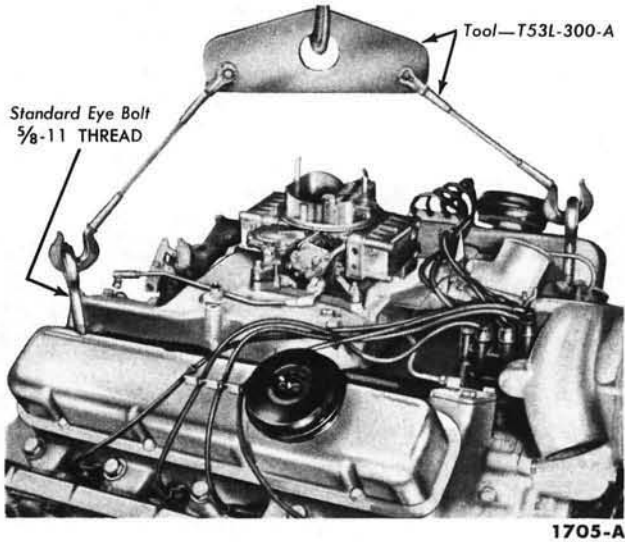
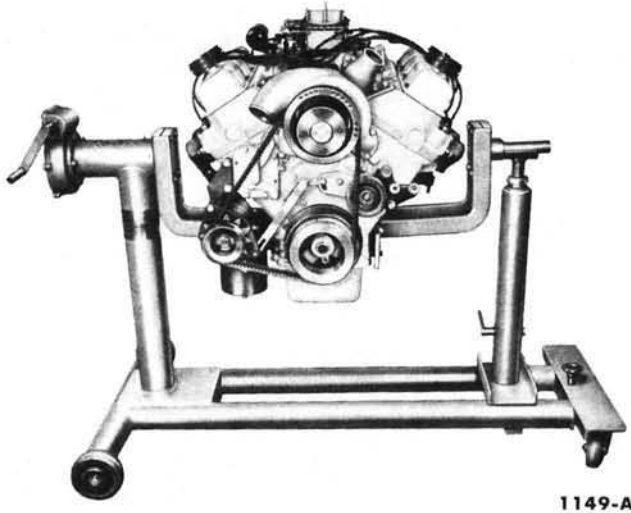

FIG. 12—Engine Lifting Sling
FIG. 13—Engine Work Stand
6. Place a jack under the front bumper at the right side and raise the right front of the truck. Remove the starter shield and starter, then lower the truck and remove the jack. Install the engine lifting eye bolts and sling (Fig. 12).
wheel to engine retaining bolts. Remove the engine from the chassis and install it on a work stand (Fig. 13).
1. Install guide pins in the two flywheel housing lower bolt holes in the engine. Place new muffler inlet pipe gaskets over the exhaust manifold studs. Attach the engine lifting eye bolts and sling (Fig. 12) and remove the engine from the work stand. Carefully lower the engine into the engine compartment. Make sure the exhaust
7. Install the engine lifting eye bolts and sling (Fig. 12). Disconnect the muffler inlet pipes at the exhaust manifold. Remove the oil pan. Position a floor jack under the transmission with no pressure applied. Remove the flywheel housing dust cover and the flywheel to engine bolts. Disconnect the parking brake clevis pin. Disconnect the engine front mount at the frame cross member. Raise the engine approximately one inch and support the transmission with the jack. Remove the engine from the chassis and install it on a work stand (Fig. 13).
1. Install guide pins in the flywheel housing two lower bolt holes in the engine block. Place a new gasket over the exhaust manifold studs. Attach the engine lifting eye bolts and sling (Fig. 12) and remove the engine from the work stand. Carefully lower the engine into the chassis. Make sure the exhaust manifolds are properly aligned with the muffler inlet pipes and the guide pins in the engine block engage the holes in the flywheel housing.